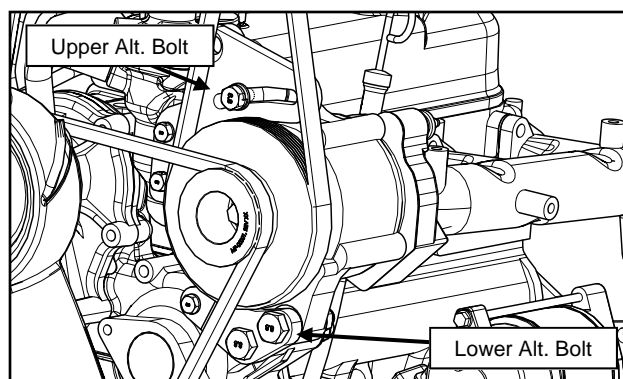

Fig. 2.10 (OEM Alternator Hardware)
2.10 Adjust the OEM alternator's V-belt tension and torque the upper M8 x 1.25 alternator bolt. See Fig.2.10.
2.11 Torque the OEM alternator lower M10 x 1.50 bolt as shown in Fig. 2.10.